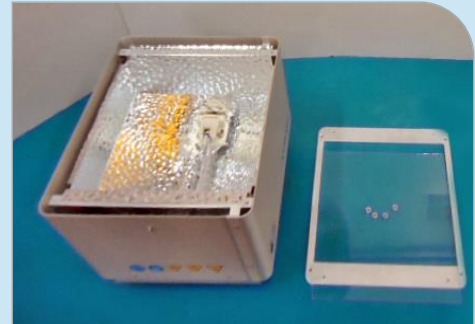

Figure 1. Lamp with Filler Plate Removed
1. Remove the Filler Plate and screws from the bottom of the ECE 2000 Lamp (Figure 1).